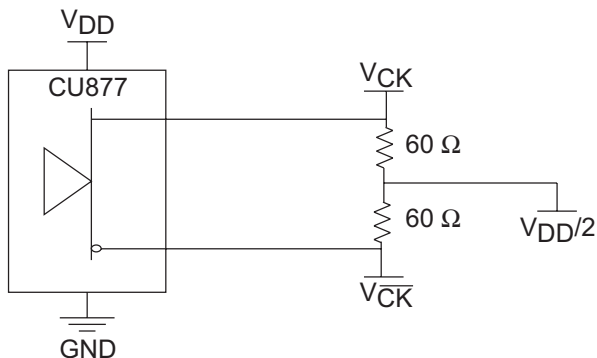

Figure 2. IBIS Model Output Load
- There are two different terminations that are used with the following tests. The loadboard in Figure 2. IBIS Model Output Load is used to measure the input and output differential-pair cross voltage only. The loadboard in Figure 3. Output Load Test Circuit 1 is used to measure all other tests. For consistency, equal length cables must be used.